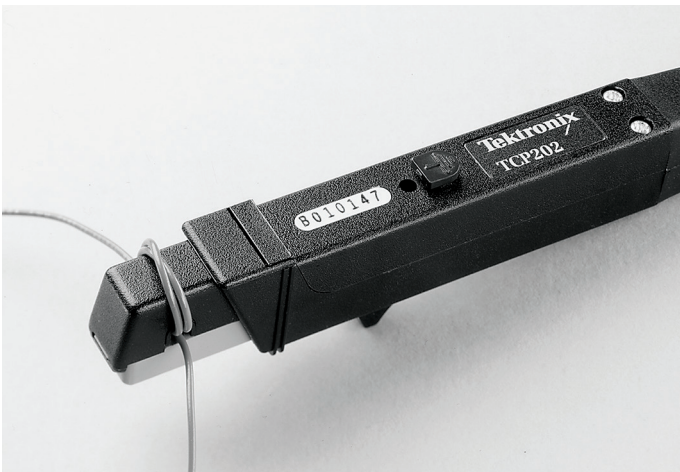

Figure 7. Increasing current sensitivity by wrapping N turns of the conductor around the current probe.
- Because current probes respond to the total current flowing through them, measurement sensitivity can be improved by wrapping multiple turns of the conductor around the current probe, as shown in Figure 7 (on page 7). If the conductor goes through the current sensor N times, the sensitivity is increased by a factor of N. The actual current value is then determined by dividing the total measured amplitude by N.